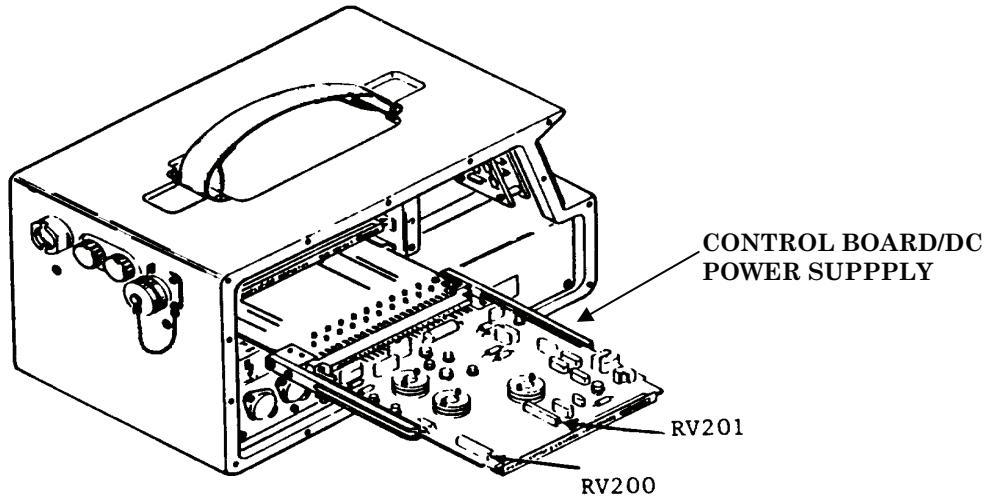

Figure 4. Reader adjustment power supply and control board location.
- (12) Adjust **NEUTRON CAL 800** until digital panel meter indicates 800 ± 1 cGy.
- (13) Set selector switch to **NEUTRON CAL 800**.
- (14) Press and release **DEPRESS FOR READING** switch five times, recording digital panel reading each time.
- (15) Average the reading recorded in (14) above.
- (16) Average reading will be between 778 and 822 cGy.
- (17) Set selector switch to **READ**.
- (18) Adjust **SET VOLTS** knob (on voltage control unit) until multimeter indicates 1.577 ± 0.001 V dc.
- (19) Press and release **DEPRESS FOR READING** switch five times, recording digital panel reading each time.
- (20) Average the readings and recorded the average value.
- (21) If average value is not between 4 and 6 cGy readjust **NEUTRON CAL 0** until average digital panel meter indication is between 4 and 6 cGy. Repeat (18) through (20) above.
- (22) Set selector switch to **NEUTRON CAL 0** and while pressing and releasing the **DEPRESS FOR READING** switch, adjust RV201 (fig. 4) until digital panel meter indicates between 4 and 6 cGy (R).
- (1) Deenergize TI and dc power supply No. 1.
- (2) Remove side panel from TI. Do not remove ground wire.
- (3) Remove dc power supply and control board (fig. 4).
- (4) Reinstall DC POWER SUPPLY and CONTROL BOARD (fig. 4), using extender board supplied with maintenance kit.
- (5) Connect multimeter to dc power supply No. 1.
- (6) Energize dc power supply No. 1 and adjust for 24 V dc indication on multimeter.
- (7) Disconnect multimeter from dc power supply No. 1.
- (8) Set selector switch to **NEUTRON CAL 800**.
- (9) Connect multimeter to TP6 (-) and TP18 (+) on extender board. If multimeter does not indicate between -11.992 and -12.008 V dc, perform **b** below.
- (10) Deenergize TI and dc power supply.
- (11) Remove DC POWER SUPPLY and CONTROL BOARD (fig. 4) from extender board and reinstall into TI.
b. Adjustments. Adjust RV200 (fig. 4) until multimeter indicates between -11.992 and -12.008 V dc (R).